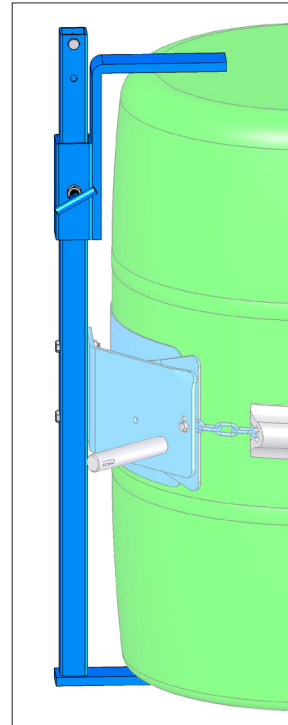

Figure 2.1
1. **Bracket Assembly Kit # 4556-P** is **required** to handle a RIMLESS plastic drum (figure 2.1), and is also recommended for a fiber drum. The Bracket adjusts for a 31" to 39" (79 to 99 cm) tall drum. You can also handle a rimmed drum with the Bracket installed.